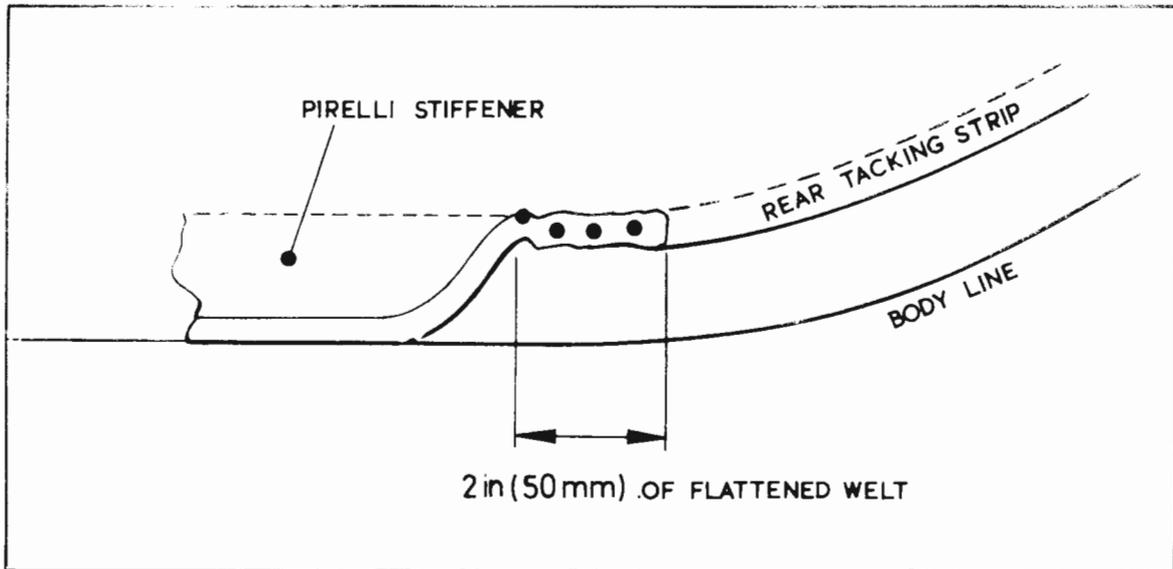

Fig. P7B. Rear Quarter - Outer Fabric L.H. Side.
10. Trim outer fabric up to the rear tacking strip, leave approximately 2in (50mm) of wetting and tack. See fig P7B.